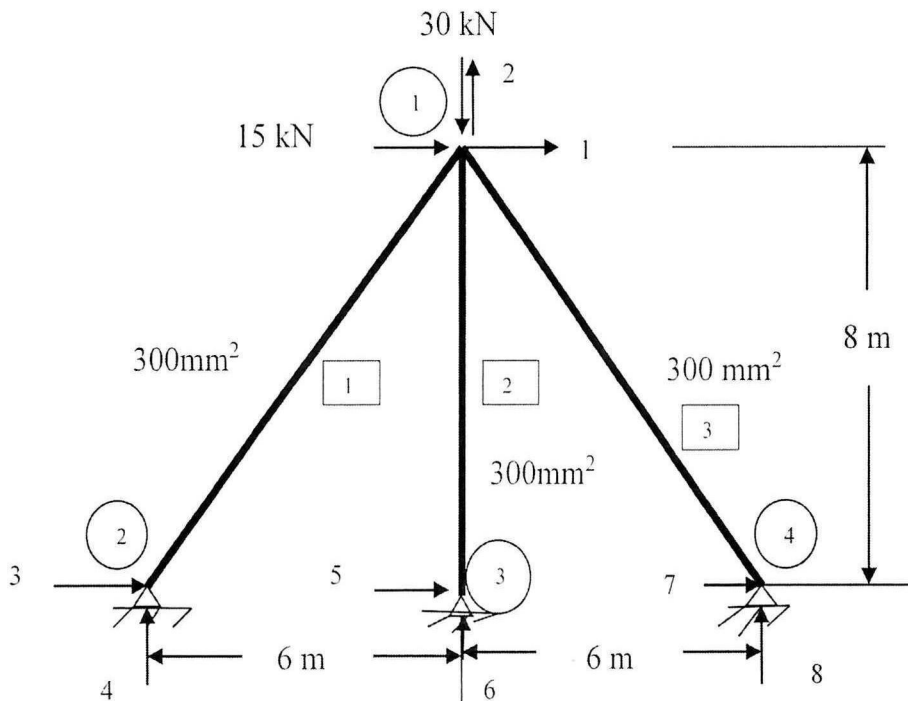

FIGURE Q2
- Q2** (a) A statically indeterminate truss shown in **Figure Q2** is subjected to a vertical load of 30 kN and horizontal load of 15 kN at joint 1. Determine the Global Stiffness matrix, K. Given $E = 20 \text{ GPa}$ (12 marks)